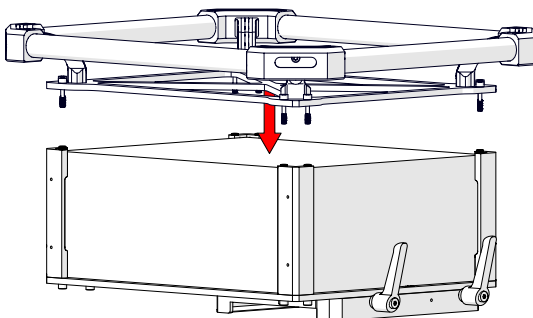

Fig. 92 - Place top half on top
5. Rotate the bottom half of the instrument box frame, then place the top half on top, ensuring that it is fully seated to the bottom half (Fig. 92).